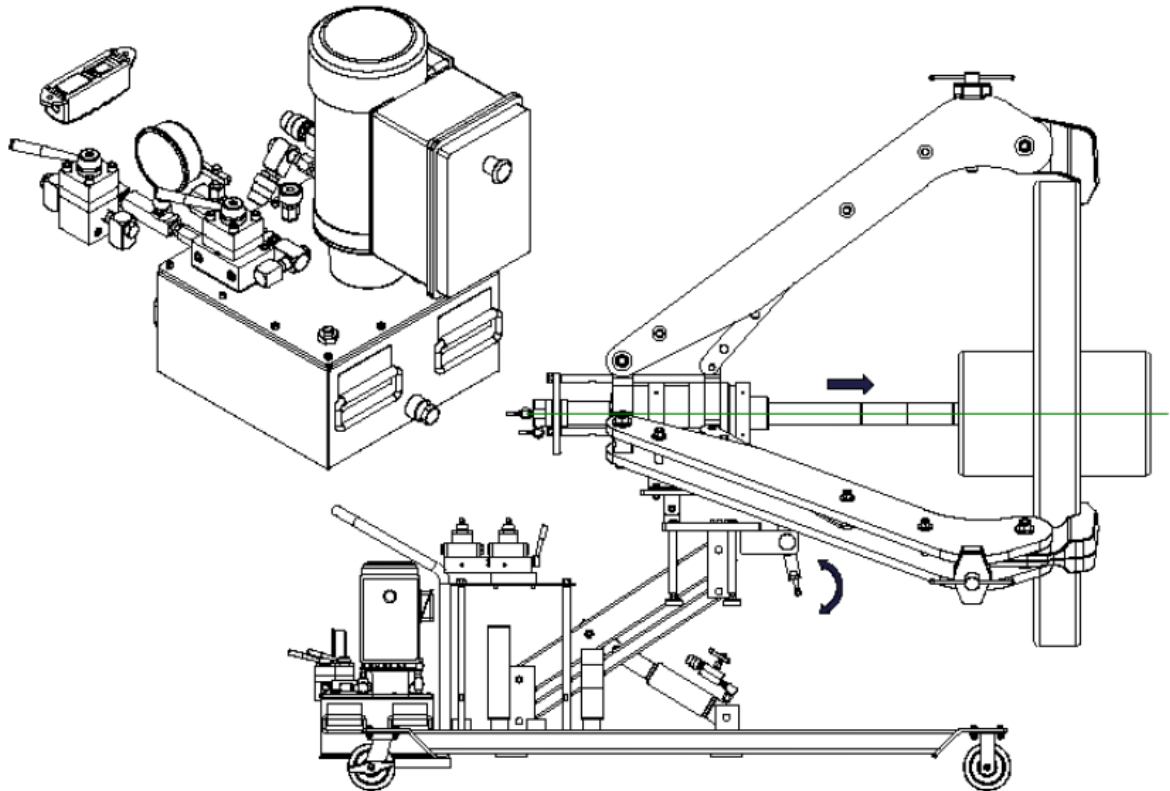

Figure 6 – Advancing the Forcing Cylinder
- 5.3.6 Once the puller is aligned, press the button on the remote switch to advance the forcing cylinder (PULL CYL.) toward the object, stopping just as the cylinder head touches the shaft (see Figure 6).